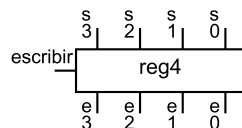

Figure 3.2: Macro of a 4-bit register
- ☐ Create, from the circuit, the macro `reg4`. Place its inputs and outputs as shown in figure 3.2.